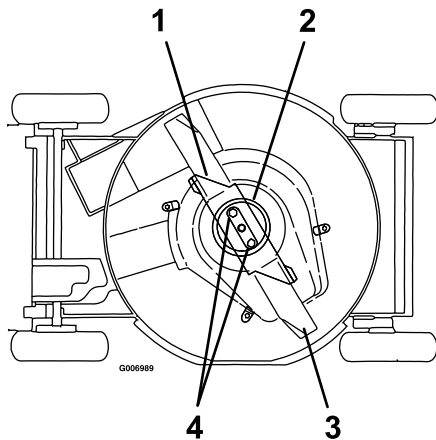
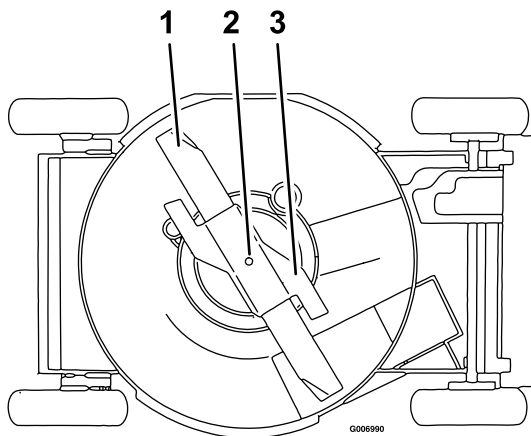

Figure 18
Figure 19
4. Tip the lawn mower onto its right side (see Figure 18 and Figure 19).
- For Blade Brake Clutch Units: Remove the blade nuts, anti-scalp cup, accelerator, and the blade (Figure 18).
- For Units without a Blade Brake Clutch: Remove the blade bolt, accelerator, and blade (Figure 19).